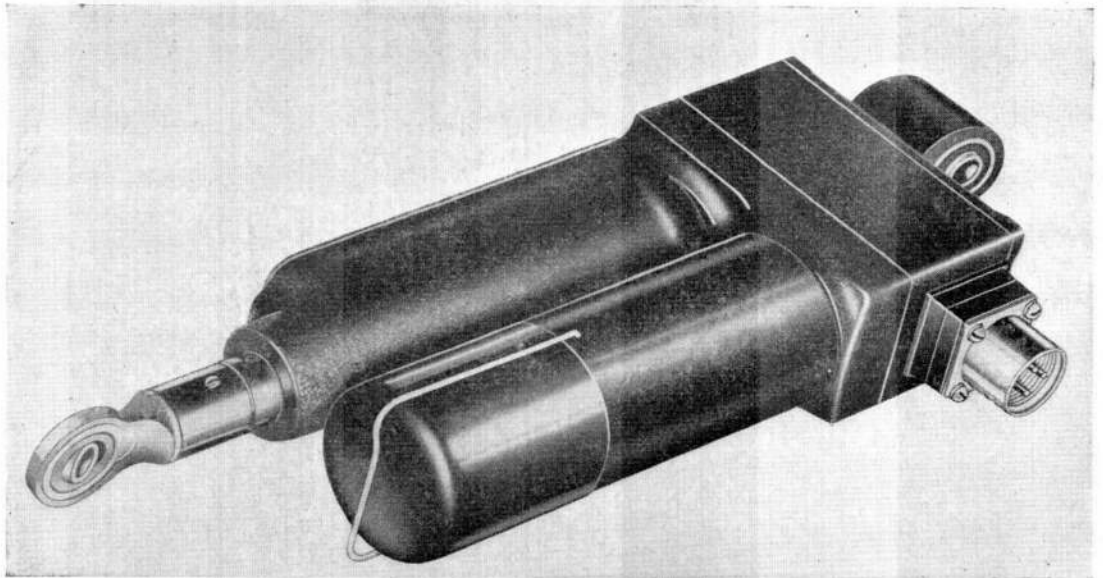
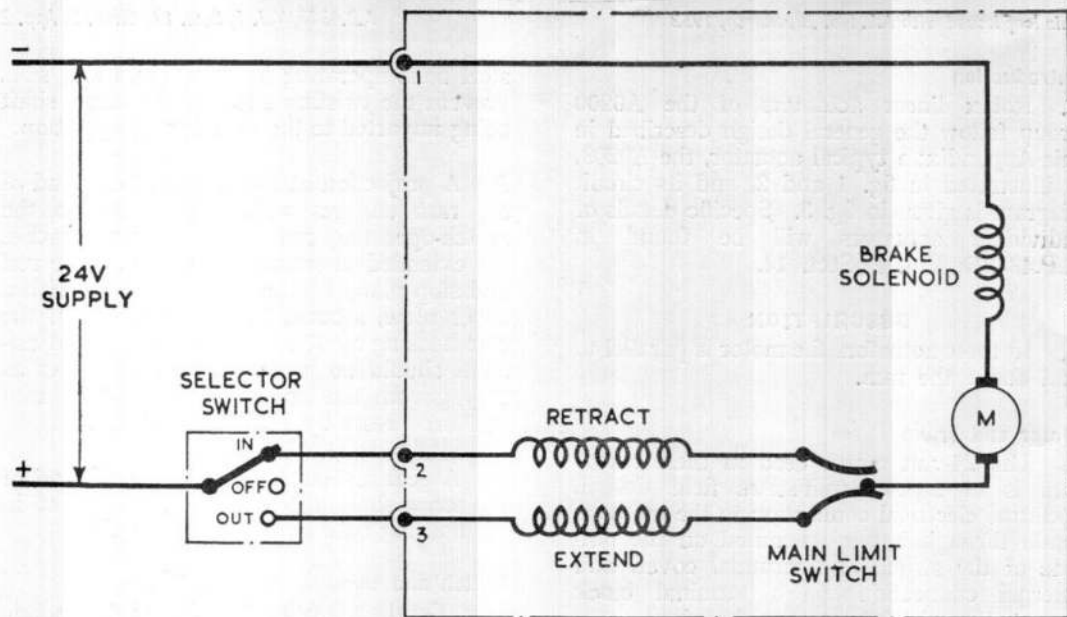

Fig. 1. Typical actuator, A0200 group
Fig. 3. Typical circuit diagram
1. Rotax linear actuators of the A0200 group follow the general design described in this Appendix; a typical actuator, the A0209, is illustrated in fig. 1 and 2, and its circuit diagram is given in fig. 3. Specific details of individual actuators will be found in A.P.4343D, Vol. 1, Sect. 14.